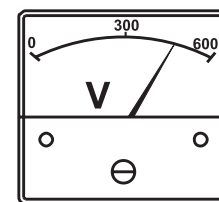

Figure 48. Voltmeter
4. The generator's AC-voltmeter (Figure 48) will display the generator's output in **VOLTS**.